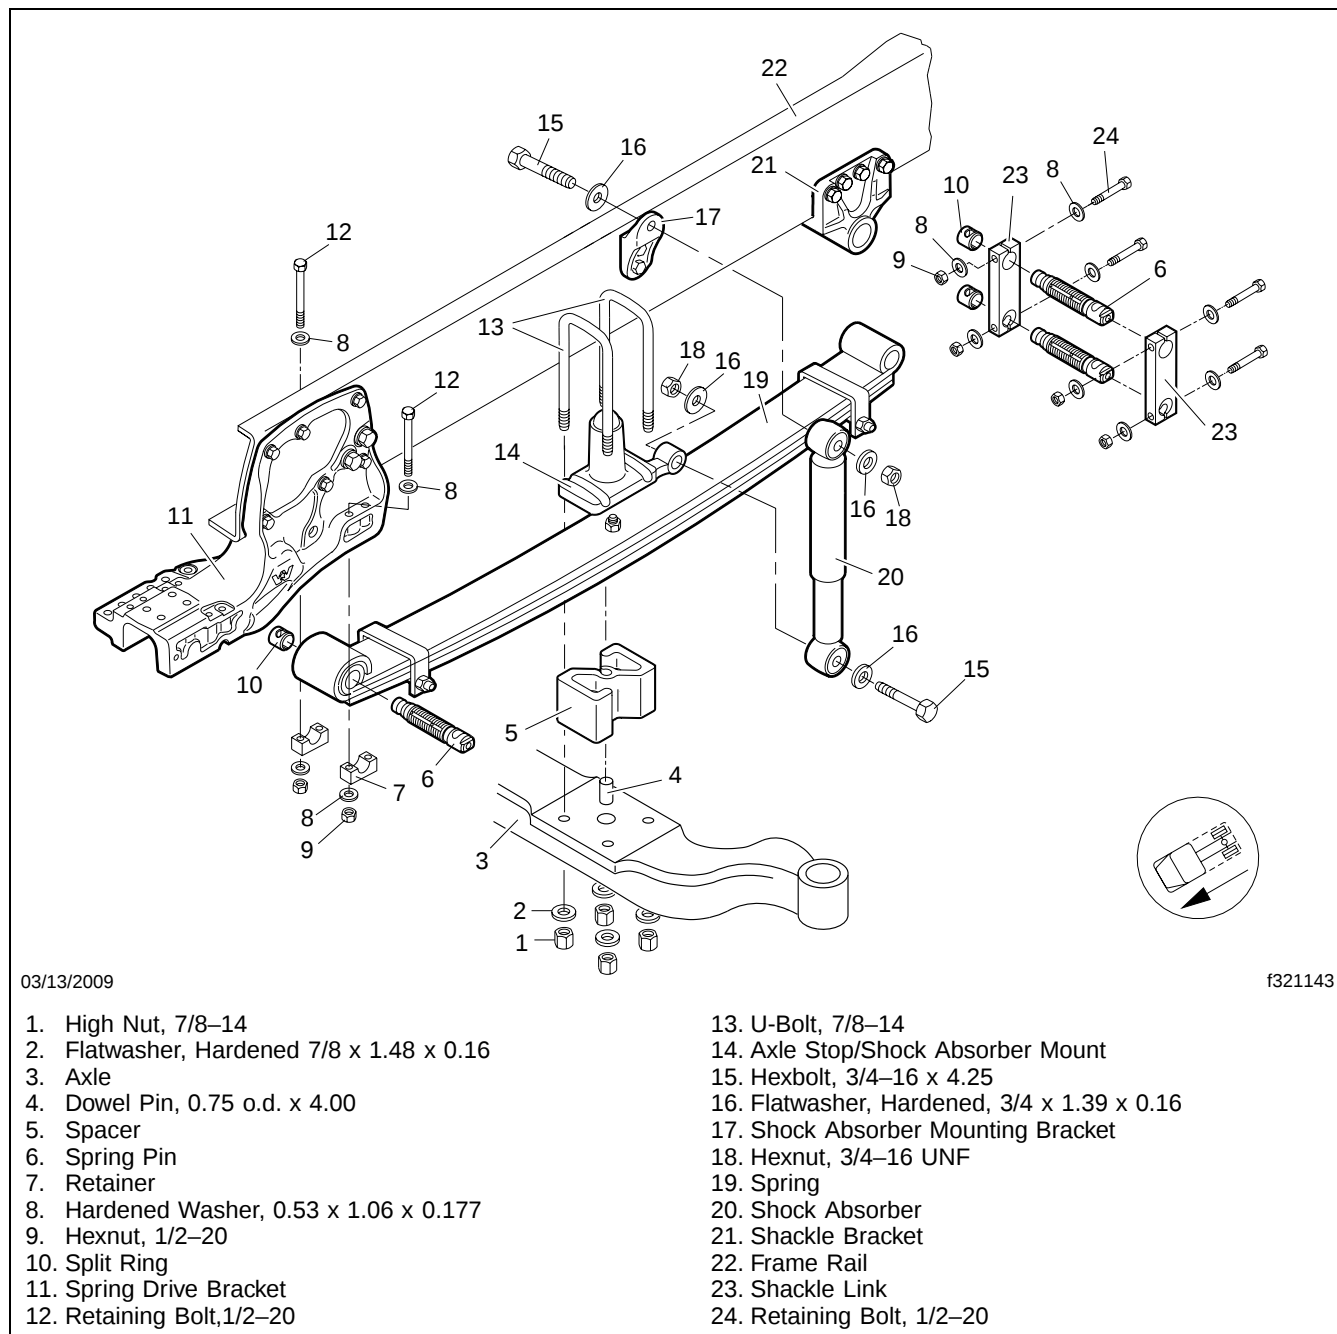

Fig. 1, Drop Hanger Front Suspension with Threaded Spring Pins
4. Disconnect both shock absorbers. See **Fig. 1**.
- 9.2 Using the proper removal tool (Removal Tool J-49860) unthread the front spring pin from the spring eye. See **Fig. 1**.